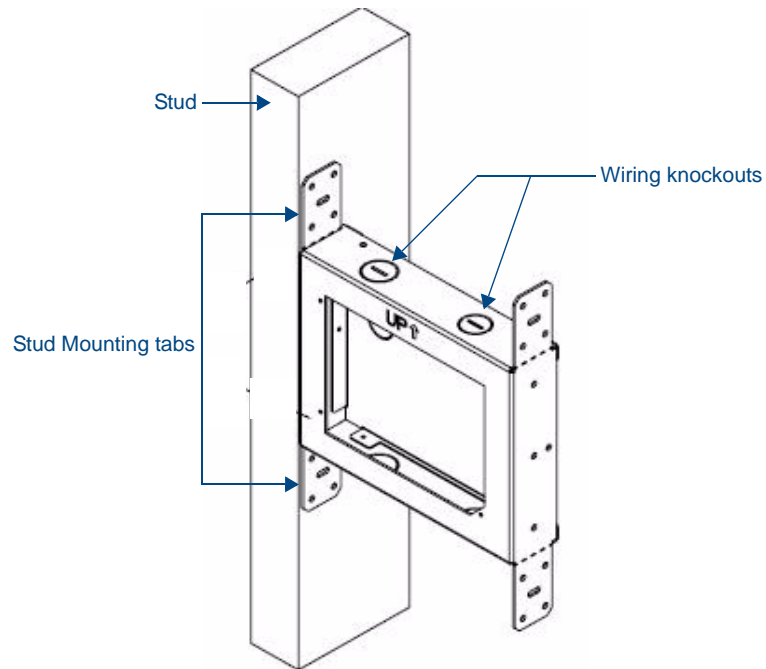

FIG. 7 CB-TP5i Rough-In Box components
2. Fasten the CB-TP5i Rough-In Box to the stud through the holes on the Stud Mounting tabs (FIG. 7), using either nails or screws.
- 3.** Remove the appropriate wiring knockouts from the rough-in box (FIG. 7) to accommodate the cables being threaded through to the touch panel.